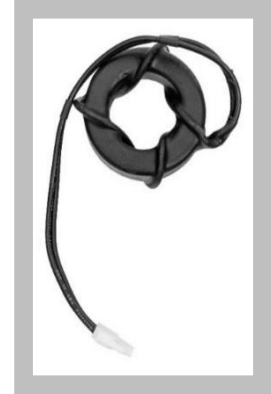

Figure 14
1. RSS toroid shown in **Figure 14**.